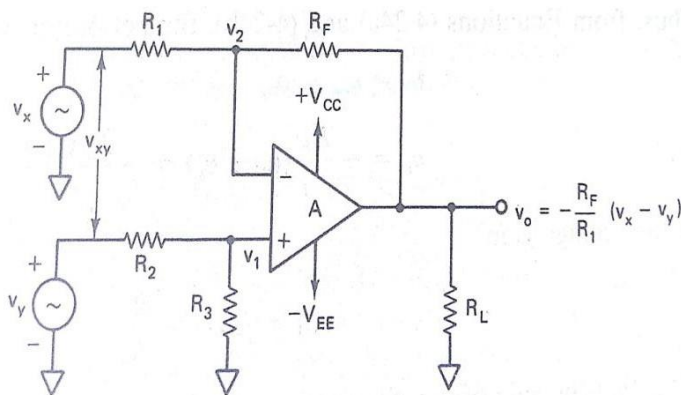

Figure 4-14 Differential amplifier with one op-amp. $R_1 = R_2$ and $R_F = R_3$.
- Figure 4.14 shows the diagram of difference amplifier
- A close examination of the figure 4-14 reveals that difference amplifier is a combination of inverting and non-inverting amplifiers i.e. when $V_x = 0$, circuit is a non-inverting amp.
- The circuit in the figure 4-14 has two inputs V_x and V_y . Therefore we use super position theorem in order to establish the relation ship between inputs and output.
- **Example:** In the circuit of figure 4-14, $R_1=R_2=1K\Omega$, $R_f=R_3=10K\Omega$, and the op-amp is a 741C, a) what are the gain and input resistance of the amplifier?